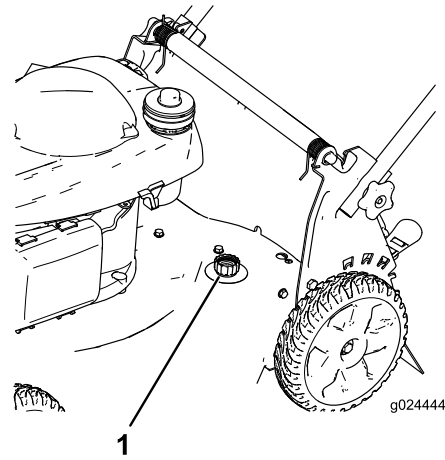

Figure 27
4. Attach a garden hose that is connected to a water supply to the washout port on the machine (Figure 27).